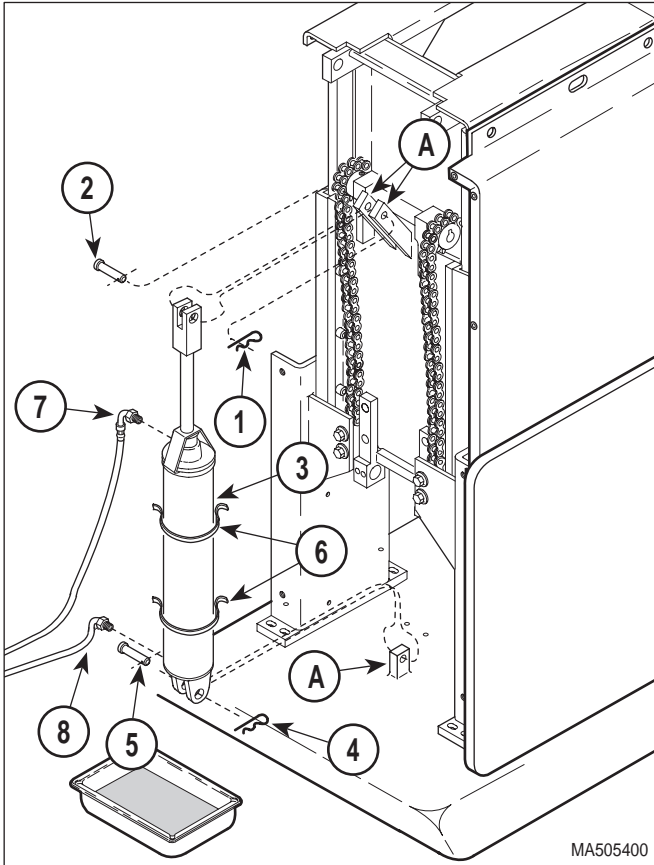

Figure 4-13. Base Cylinder Removal / Installation
- (9) Remove hitch pin clip (1, Figure 4-13) and clevis pin (2) from rod end of base cylinder (3).
- (10) Remove hitch pin clip (4), clevis pin (5), and partially separate base cylinder (3) from brackets (A).
- (1) Position base cylinder (3, Figure 4-13) on table.